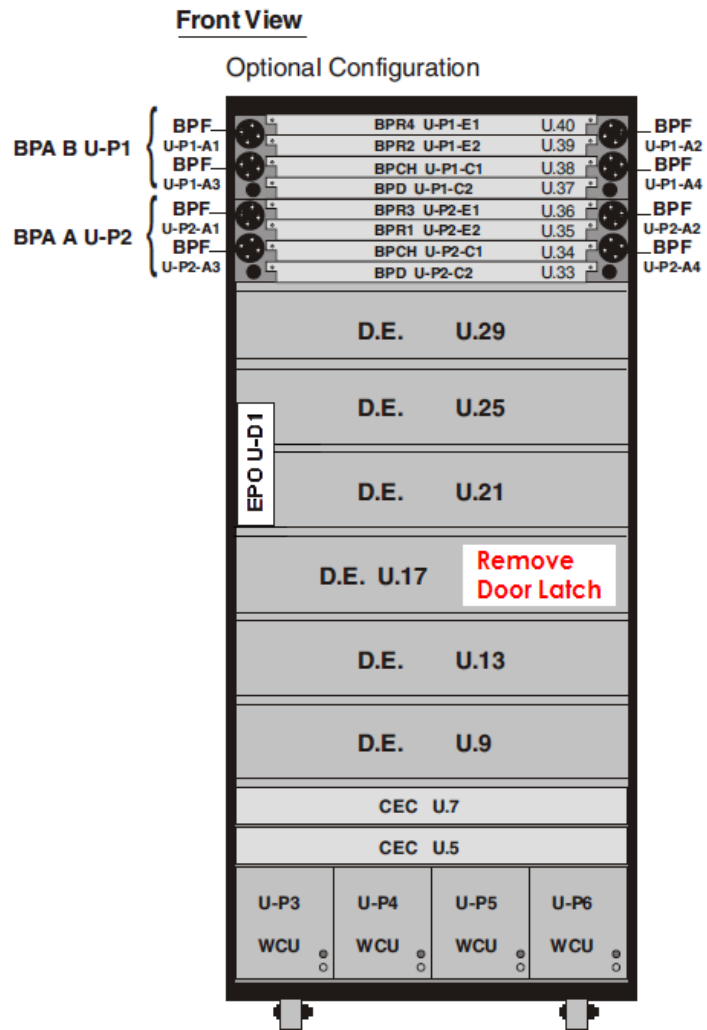

Figure 17: Disk Enclosure and Door Latch Plate Location Info.
STEP 22 Remove latch plate from Rack per Figure 17.